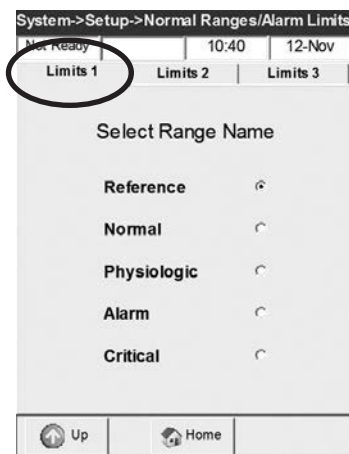

Fig. 3-15 Select Limits Name
3. On the **<Limits 1>** tab, select the limits range name you wish to use (Fig. 3-15):